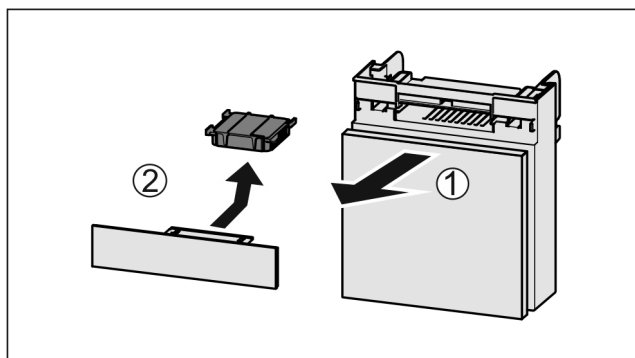

Fig. 50
- Pull out the compartment Fig. 50 (1).
- Remove the carbon filter Fig. 50 (2).